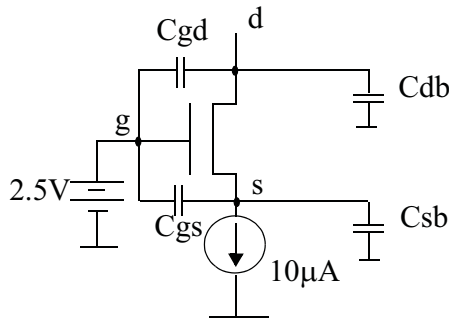

Figure 0.16 Device going through different operation regions over time
19. [M, None, 3.3.3] For the NMOS transistor in Figure 0.16, **sketch the voltages** at the source and at the drain as a function of time. Initially, both source and drain are at +2.5 volts. Note that the drain is open circuited. The $10 \mu A$ current source is turned on at $t=0$. Device parameters: $W/L_{eff} = 125 \mu / 0.25 \mu$; $\mu C_{ox} = 100 \mu A / V^2$; $C_{ox} = 6 fF / \mu^2$; $C_{OL}(\text{per width}) = 0.3 fF / \mu$; $C_{sb} = 100 fF$; $C_{db} = 100 fF$; $V_{DSAT} = 1 V$.